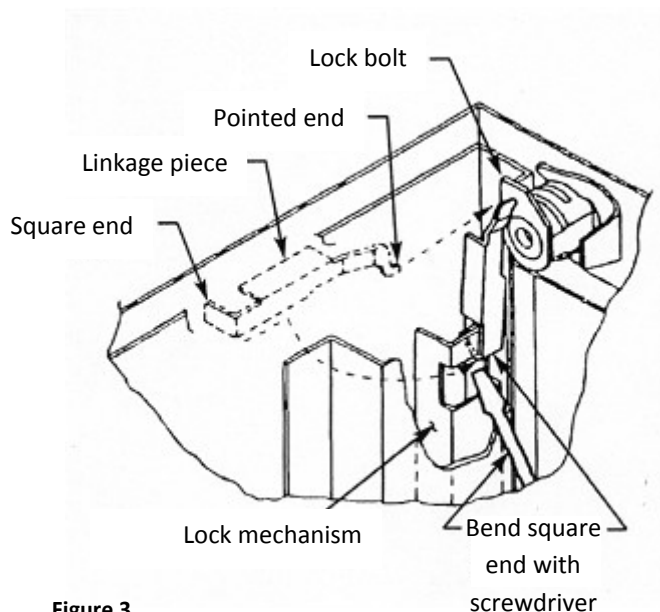

Figure 3
6. Connect square end of linkage piece to locking mechanism by lifting flange of lock mechanism with finger. (see figure 3)